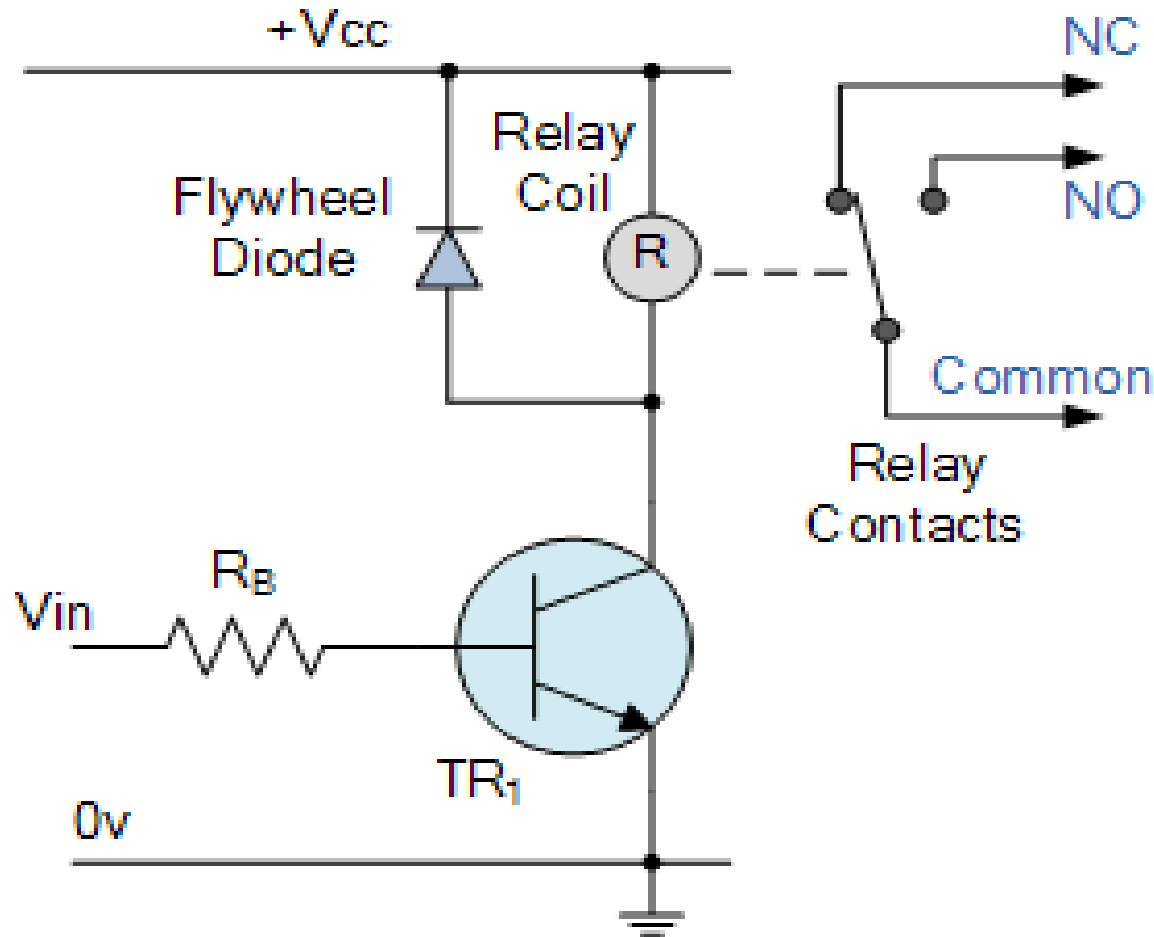

Fig 3: Connecting a flywheel diode across a relay
- One way of preventing damage to the transistor or any switching semiconductor device, is to connect a reverse biased diode across the relay coil, see fig 3.